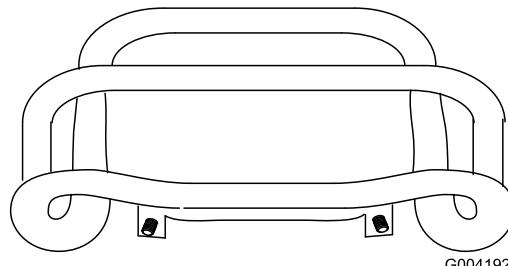

Figure 52
5. Adjust the traction control so that it rests flush against the reference bar when it is pulled straight back (Figure 51 and Figure 52).